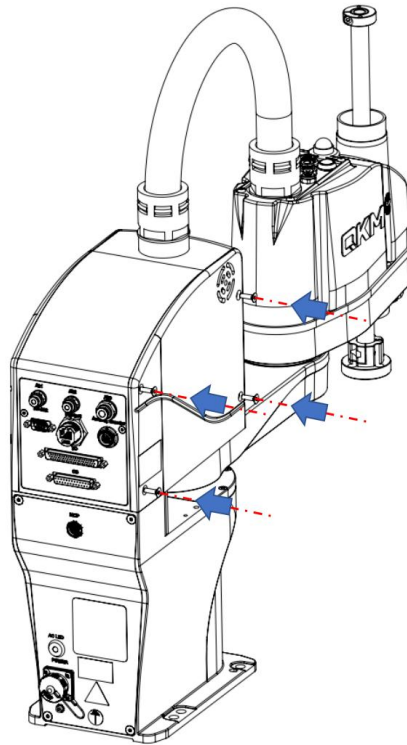

Figure 4-7 Installation of upper control cabinet side door panel
**Step 2** Use 3 mm Allen wrench to tighten the screws on the side door panel of the robot (with a tightening torque of 1 N·m), as shown in in Figure 4-7.